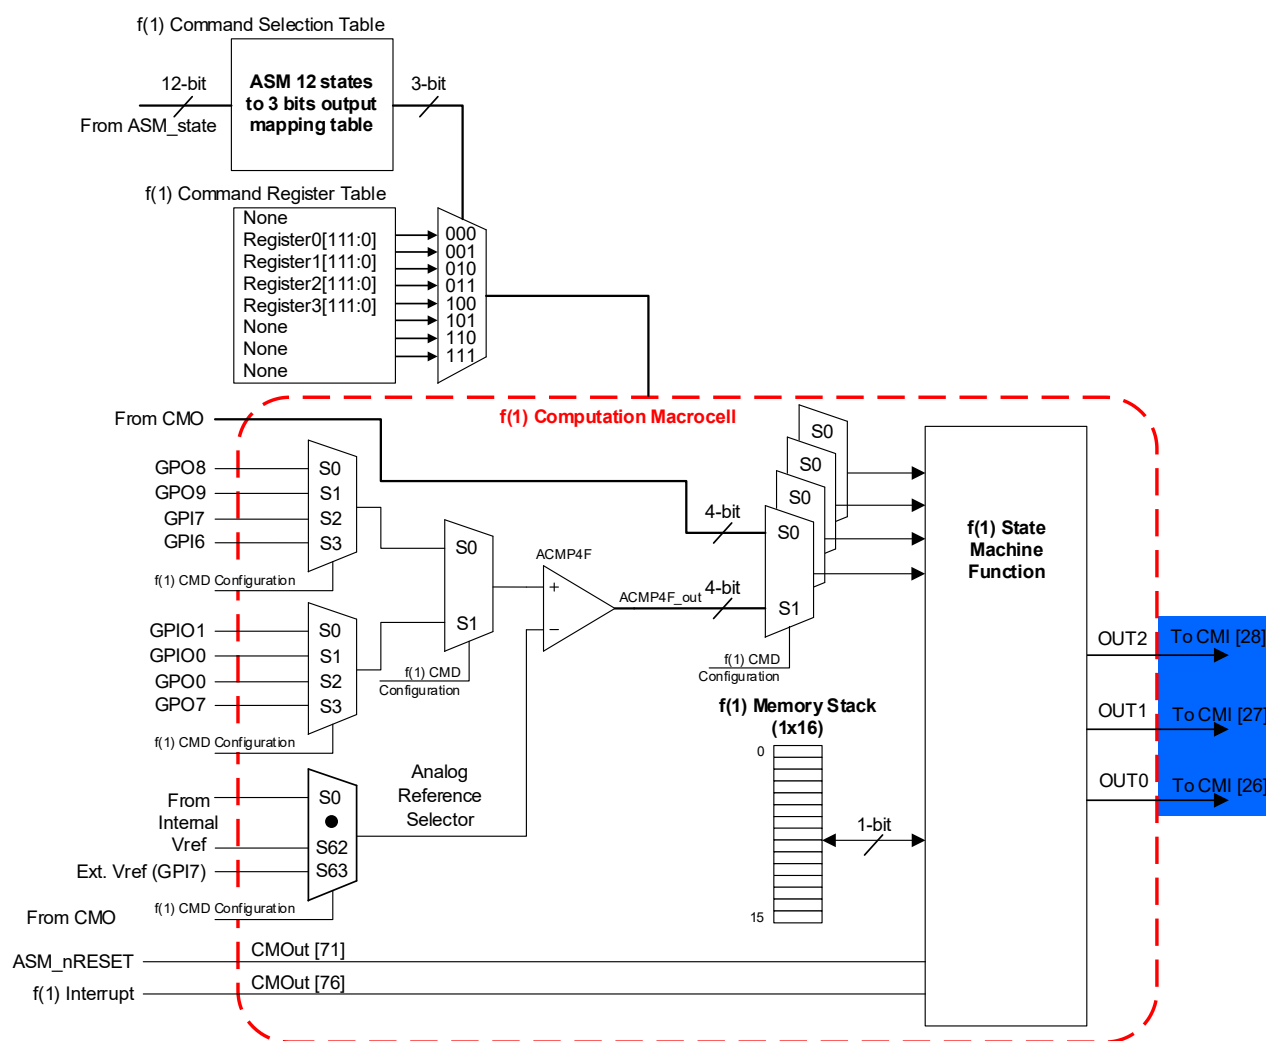

Figure 120. f(1) Computation Macrocell Output Signals
17.4 f(1) Computation Macrocell Output Signals
The f(1) Computation Macrocell has 3 digital output signals that go to the Connection Matrix, and from there can be routed to other internal macrocells or pins. These signals are shown in Figure 120, highlighted in blue. The states of these output signals are under user control and are changed based on the Output commands.